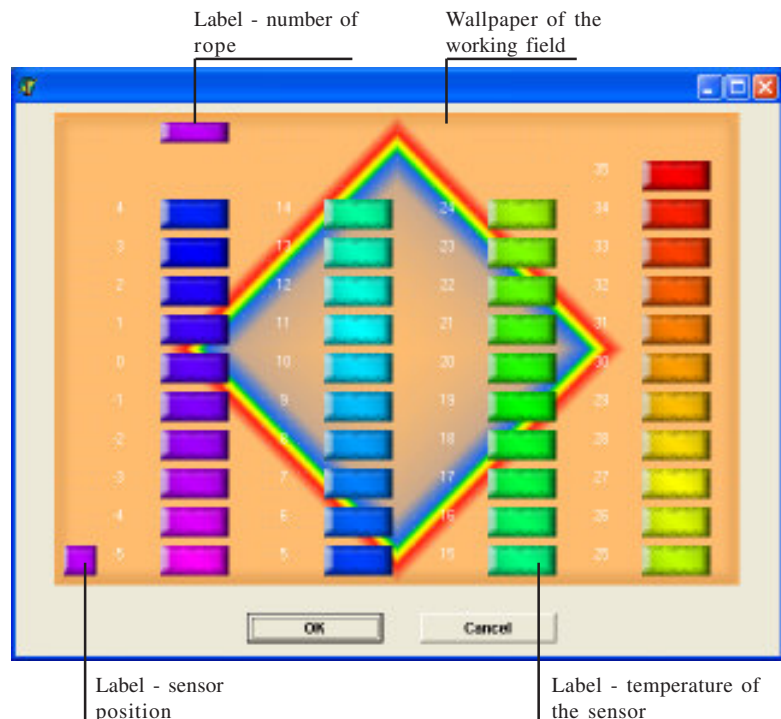

Figure 5.4 Box for change
Step 1 - from menu “Screen adjustments” choose “Change of the visualization type”. On the screen will appear a box, as shown on Figure 5.4. As understood the program disposes of 41 files with different colours - Figure 5.5. Each one of them is foreseen for one specified temperature value.